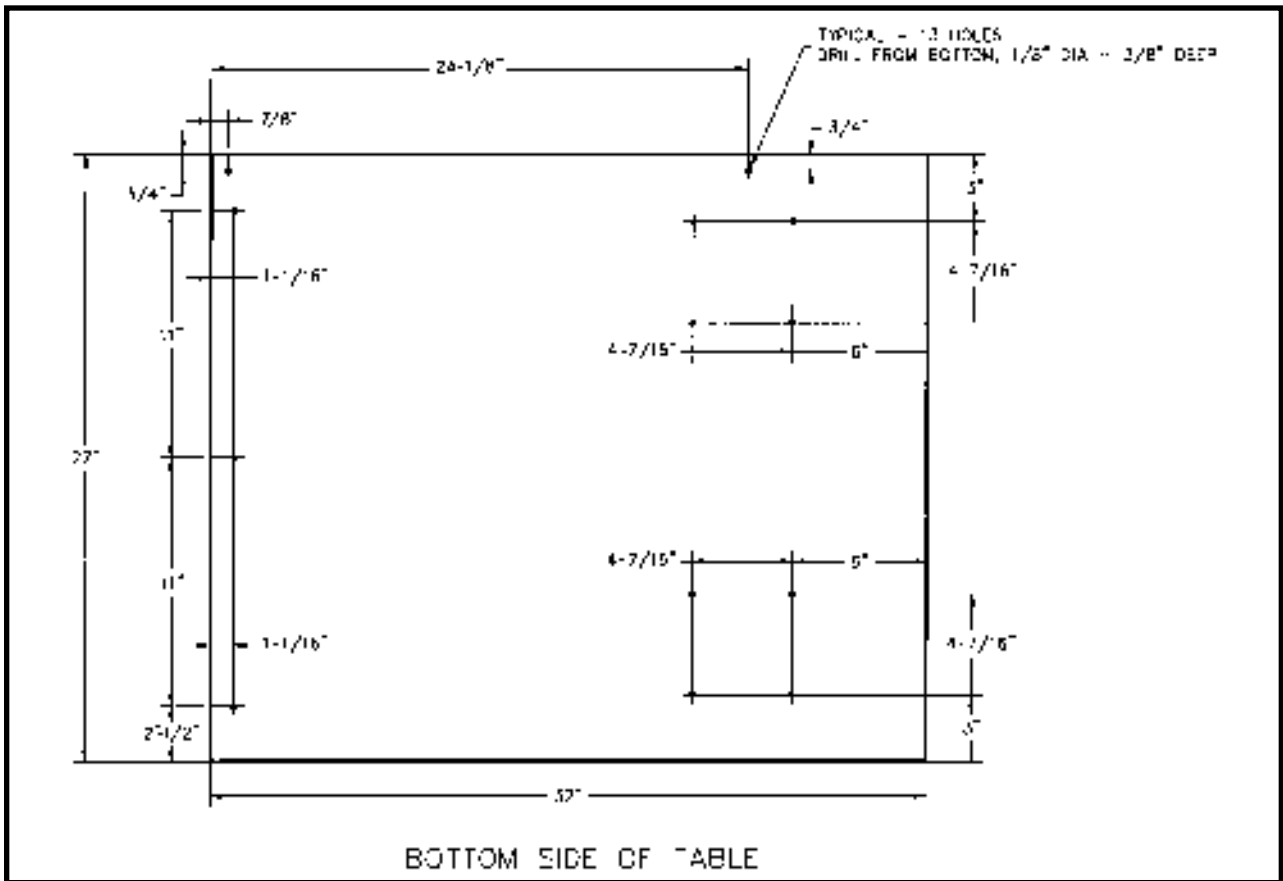

Fig.45
1. The table board supplied will require thirteen 1/8" diameter x 3/8" deep holes to be drilled in the bottom of the table board at the locations illustrated in Fig. 45.